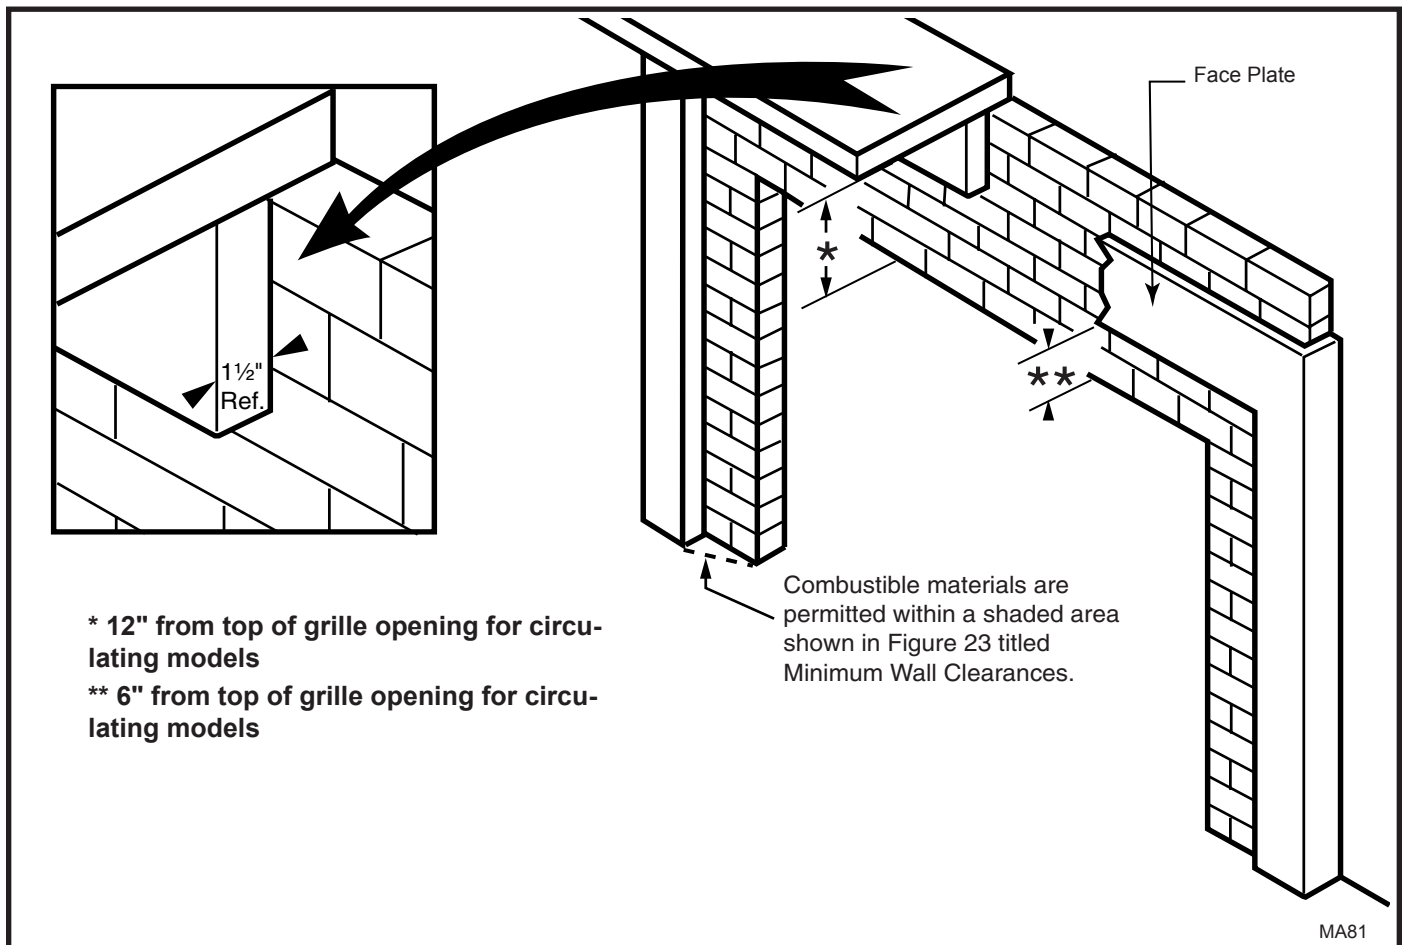

Fig. 23 Combustible mantel clearances.
Finish the wall with material of your choice. **Do not install a combustible mantel shelf less than 12" (305 mm) from top of grille opening. Do not install a mantel face plate less than 6" (159 mm) from top of grille opening.** (Fig. 23) If a combustible material is
NOTE: No side wall protection is required for fireplaces installed at 45° to two (2) side walls (corner installation). Often a decorative surround or vertical portion of the mantel is desired. If this is constructed of any combustible material it must be within the safe zone indicated in Figure 23.